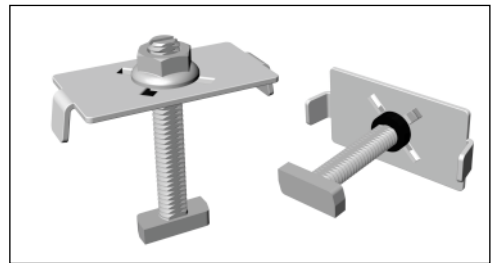

Figure 5: AMP Clamp Mid Clamp
2. AMP Clamp™, a self bonding Mid Clamp used in all instances where a Mid Clamp is required (Figure 5).